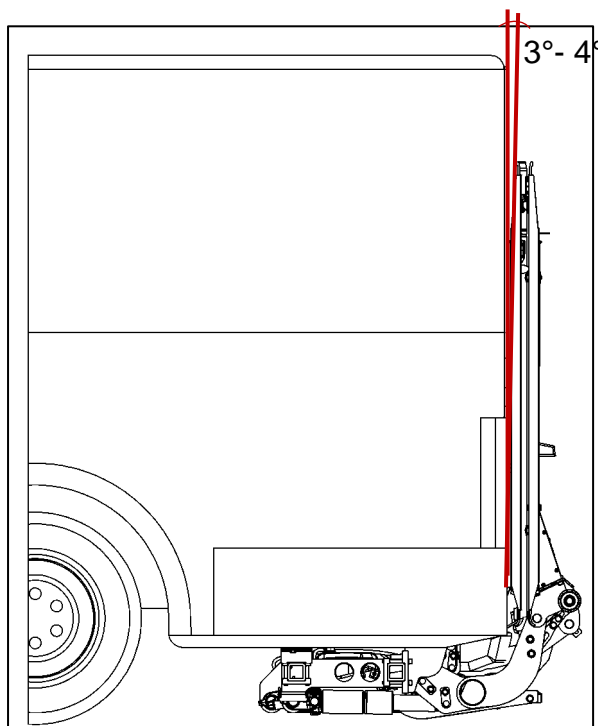

Fig. 77
- Hydraulically close the platform until not quite vertical, leaving it open 3° to 4° (see Fig. 77).